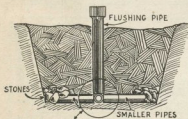

Fig. 1-b. Details of the flushing pipes located over the ground plate.
Having obtained four one-pint Mason jars, you will need eight electrodes for these cells, one pair for each. These electrodes consist of four aluminum and four lead plates, whose dimensions are each $1\frac{3}{4} \times 5$ inches (Fig. 1). Four aluminum plates cut from an ordinary kitchen casserole are excellent for this purpose. A strip of sheet lead, $5 \times 6\frac{1}{2}$ inches, obtained at a plumber's shop and cut into four pieces of the same size, will serve for the other set of plates. Scrape all eight plates well with emery paper to bring out a clean surface.
The plates are suspended in the cells, in pairs, by means of wooden supports, the size of each of which is $\frac{3}{4} \times 3\frac{1}{4} \times 3$ inches. Both plates and supports and the method of attaching them are sketched in Figs. 1 and 2. Two holes drilled in each plate will allow two small screws to attach it to its support, a 10-in. length of copper wire being firmly entwined between the screws and wood support for connection later. The supports should be boiled in a hot paraffin bath for an hour or so before final use. The four cells are then placed upon a base of wood (8 by 10 inches), arranging the plates in the manner shown in Fig. 4. Two hard rubber strips with which external connections are made. The receptacle (S) is an ordinary porcelain lamp socket, placed where shown, and used for inserting the resistances (R), as a lamp, electric iron, etc.
Fig. 1 shows a section through the trench in which the plate has been buried. Above
Fig. 1. Showing the details of a water-supply system for the ground connection. The flushing pipe carries water to the plate, to which the ground wire is soldered.